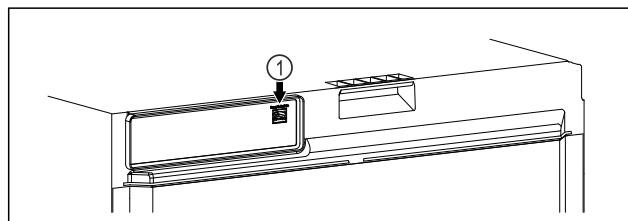

Fig. 110
- ☐ SmartModule Fig. 110 (1) has been inserted.